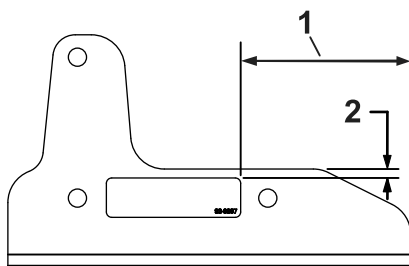

Figure 1
1. Install the decal to the left bracket as shown in Figure 1.